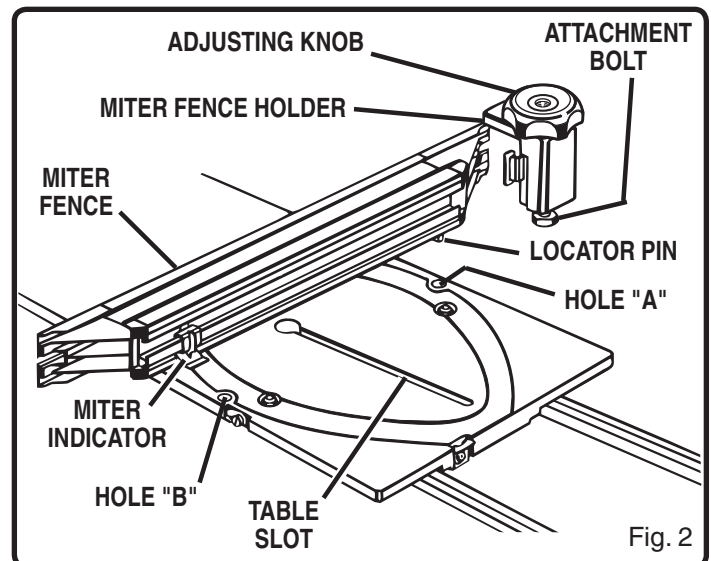

Fig. 2
- Place the long miter fence rail on the sliding miter table. See Figure 2.
Note: Raised ribs on the locator pin create a tight fit when installing the locator pin. It may be necessary to force the locator pin into the holes at first. See Figure 2.